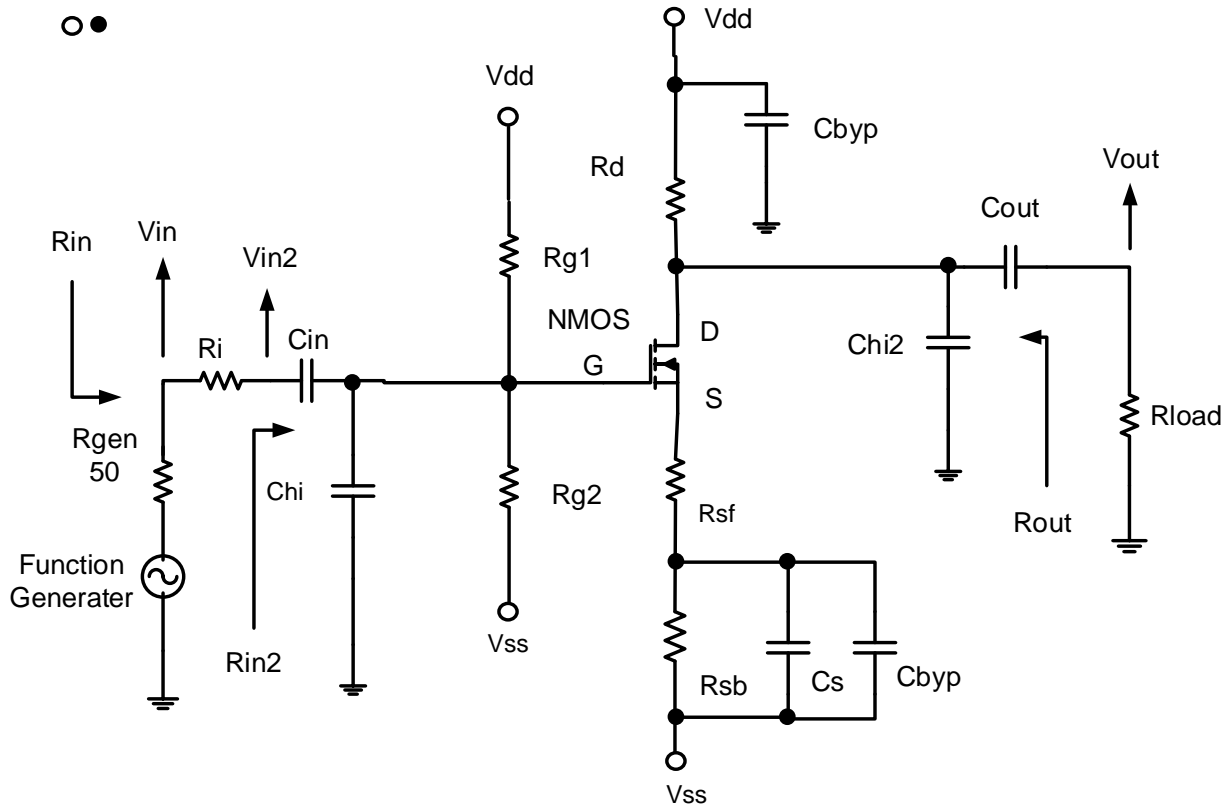

Figure 1. Common-source amplifier circuit.
The circuit in Figures 1. The common source CS amplifiers, like all MOSFET amplifiers, have the characteristic of high input impedance. The value of the input impedance for the amplifier is limited only by the biasing resistors R_{g1} and R_{g2} for $R_{in} < 1M\Omega$. Values of R_{g1} and R_{g2} are usually chosen as high as possible to keep the input impedance high. High input impedance is desirable to keep the amplifier from loading the signal source. One popular biasing scheme for the CS configurations consists of the voltage divider R_{g1} and R_{g2} . This voltage divider supplies the MOSFET gate with a constant dc voltage. This is very similar to the BJT biasing arrangement described in common emitter amplifier. The main difference with the BJT biasing scheme and MOSFET is that ideally no current flows from the voltage divider into the MOSFET.
For this project, you will design the common source amplifier. These circuits are shown in Figure 1. You should refer to your class notes, textbook, instructor, and other reference material to help you design the circuits. Start with the output requirement calculate the $V_{out_{peak}}$. DC design and then move onto the AC design.
6.1. Construct the CS amplifier shown in Figure 1. Remember that $R_{gen} = 50\Omega$ is internal to the function generator $F_{gen} = 5\text{kHz}$. Record the values of the bias network resistors and the capacitors you used in the circuit. $R_L =$ given resistor value.